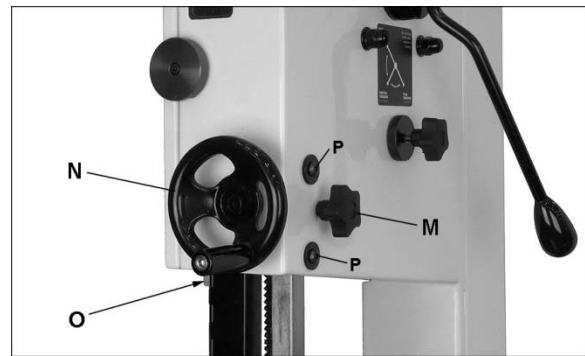

Figure 27
Refer to Figure 27.
4. Loosen lock knob (M, Figure 27) and raise guide post to a high position.
6. If guide post does not go straight up and down (blade begins deflecting when guide post is raised), slightly loosen the two screws (P, Figure 27) and adjust guide post assembly as needed.
7. When finished adjusting, securely tighten the two screws (P).